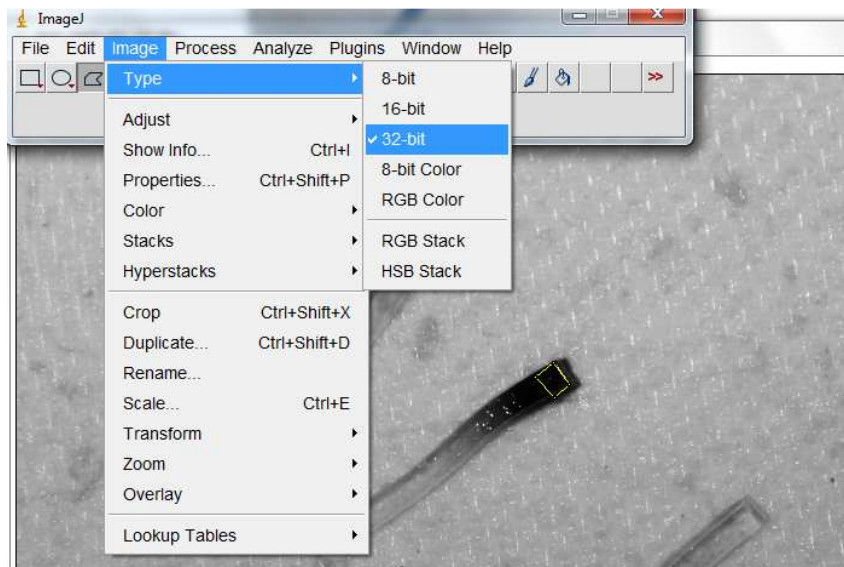

Figure 4. The menu option to view the image in grayscale
2. Import an image into ImageJ and convert the image to grayscale as seen in Figure 4 below.